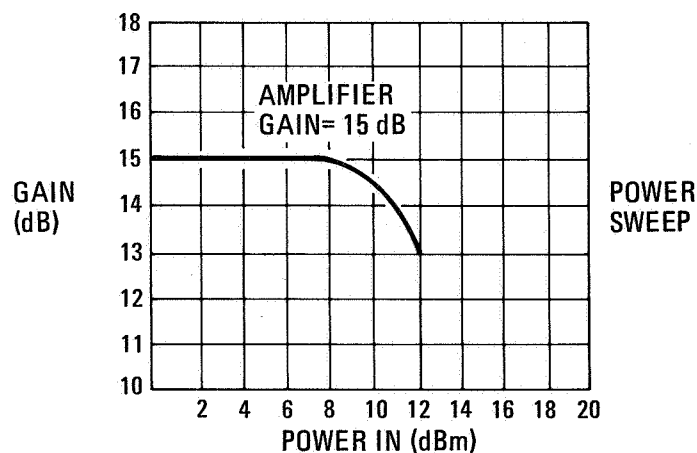

Figure 10. Gain Compression Display
**Power Sweep.** The RF output power may be ramped up when the sweeper is in the swept or "swept" CW mode by using the POWER SWEEP function. See Figure 10 for a gain compression display using power sweep.